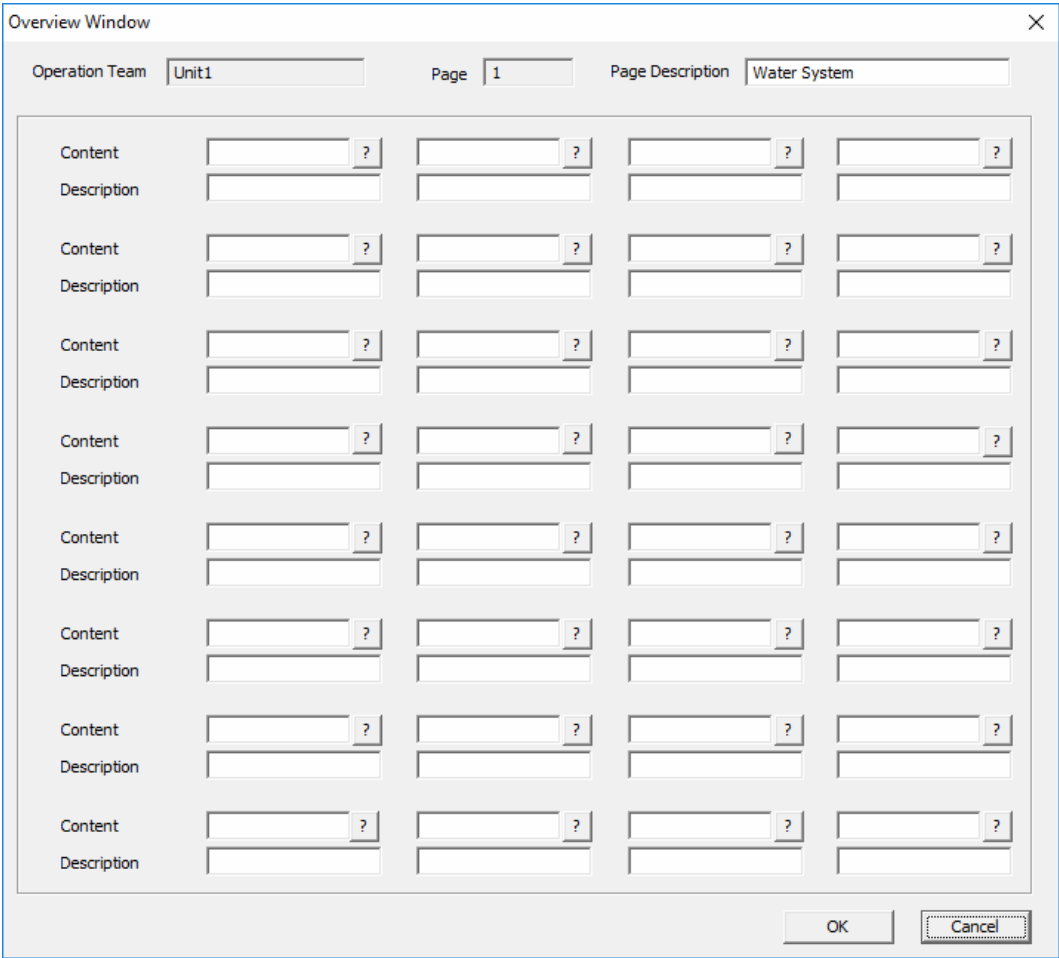
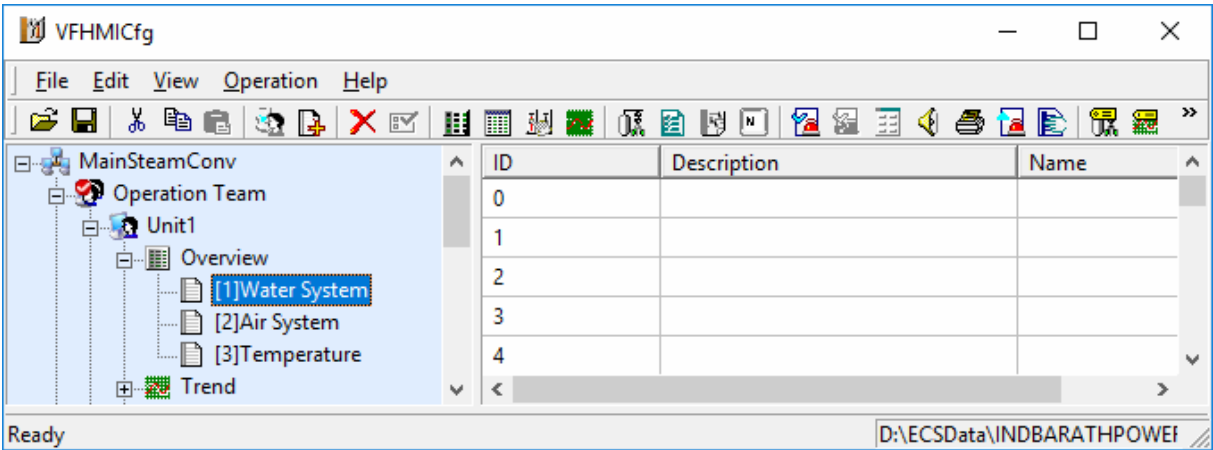
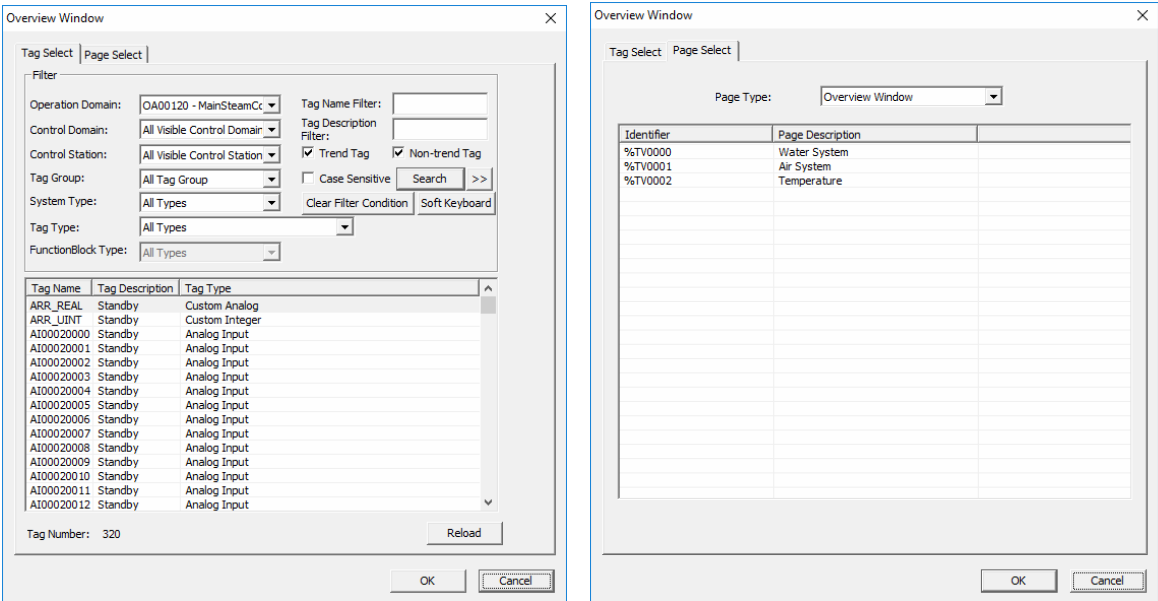

Figure 4-5 Configuration window of overview window
Figure 4-6 Overview window of unset tags
Figure 4-7 Overview setting window
Double-click “Water System” at the left or click “Edit” at the right, and the pop-up window as shown in Figure 4-5.
Click query button  in Figure 4-5 or Figure 4-6, the pop-up overview setting window as shown in Figure 4-7. Select one tag (or one window object) in this window, and press “OK” button, and tag or window object is added successfully to corresponding position in the overview window.
1. Click query button  in Figure 4-5 or Figure 4-6, the pop-up overview setting window as shown below.